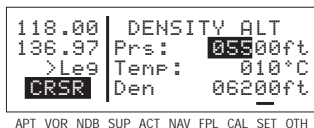

Figure 4-68
2. The pressure altitude (**Prs:**) displayed will be either the last entered pressure altitude on this page, or the last calculated pressure altitude from the CAL 3 page. If you desire to change it, enter the current pressure altitude to the nearest hundred feet by using the right inner knob (figure 4-68).